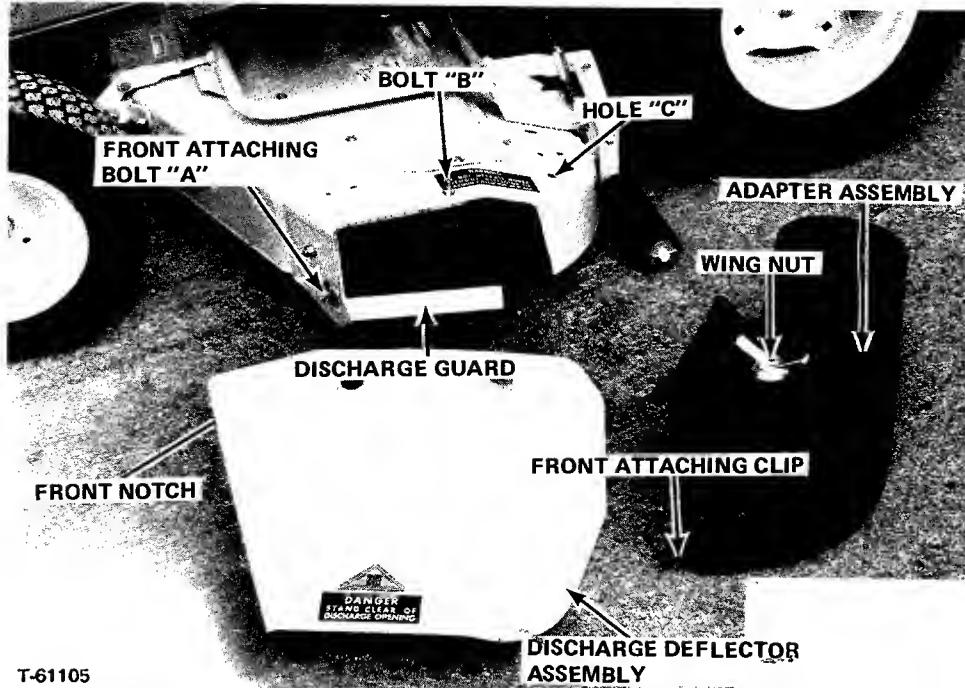

FIGURE 5 - 48" Mower
INSTALLING ADAPTOR (Figures 5, 6 and 7)
2. Replace the bolt at "B" (Figure 5) with a longer carriage bolt, nut and lockwasher as shown and tighten nut.
the deflector assembly back on the mower housing. Hook front notch of deflector (Figure 5) back of front attaching bolt "A" and use same hardware at "C" to hold the upper rear corner of deflector to mower housing that was taken out when deflector was removed.
4. Loosen front bolt, and install discharge deflector placing notch in front edge behind flat washer on front bolt. Place wing nut from vacuum collector attachment on long bolt "B" (Figure 5). Install bolt, flat washer, lockwasher and nut in hole "C". Tighten nuts on bolts "A" and "C" and wing nut on bolt "B" securely to hold the deflector assembly to mower housing.